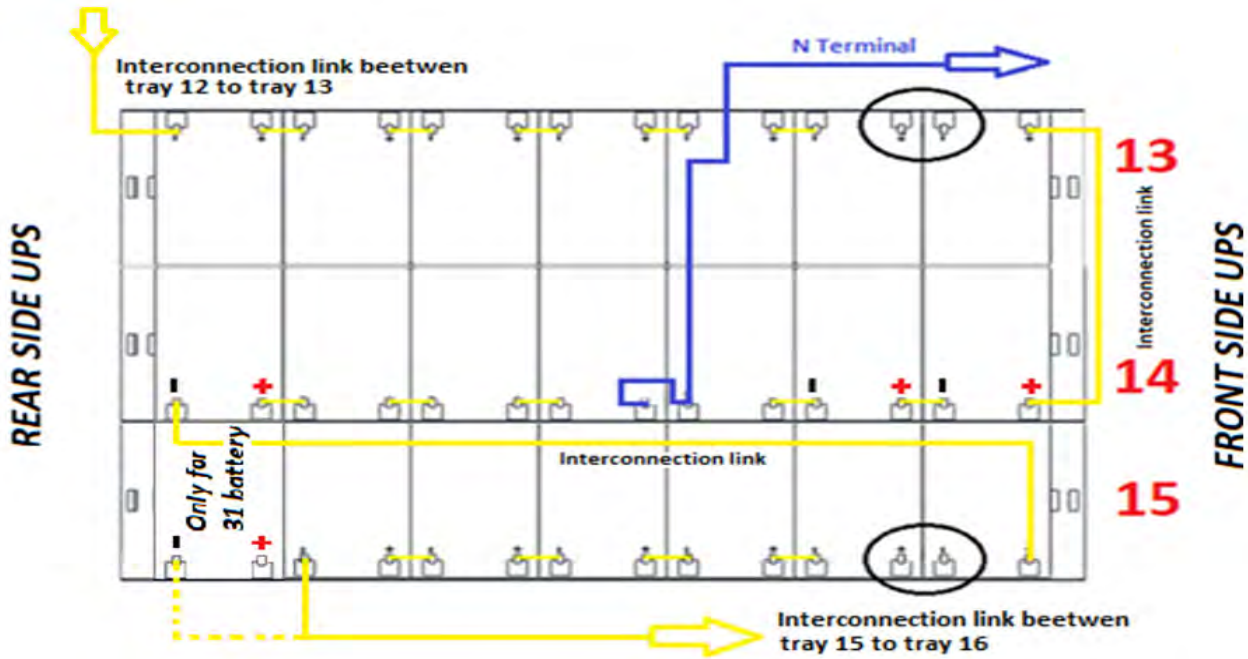

Figure 39 - View from above Level No.5
13) On Level no. 5, insert tray no. 13-14-15 in compliance with the position and cabling as demonstrated in Figure 39.